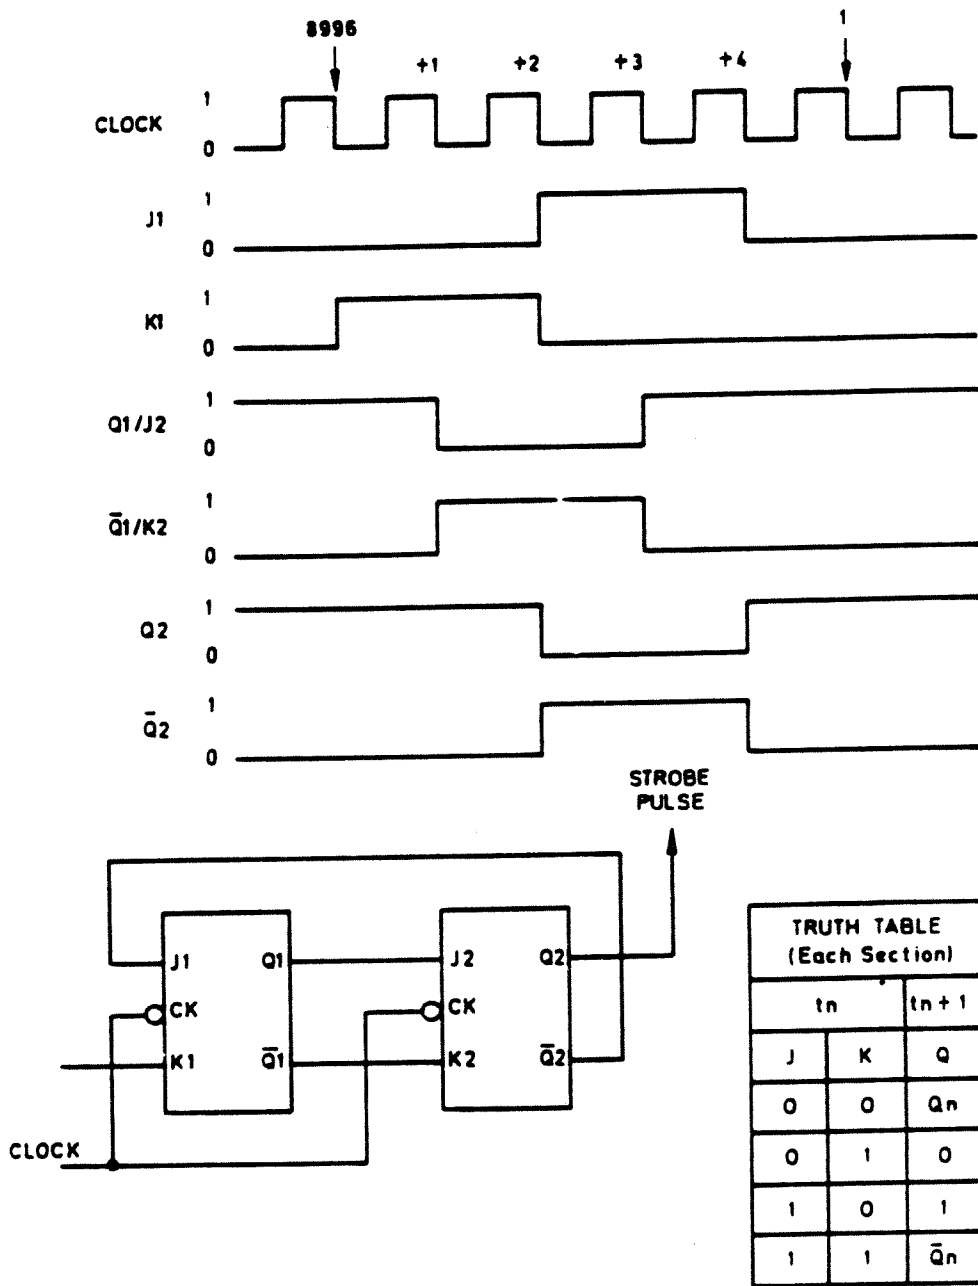

Figure 10-3. Waveform Diagram. Strobe Pulse Generation LF Loop. A11A1
To start a counting sequence, a logic '0' strobe pulse is applied to the strobe (ST) input of each decade counter. This causes the logic level applied to each input line to be transferred to the corresponding output line. The negative-going edge of the clock pulse (from the VCO) is applied to the clock 1 input of U3 and each pulse is now counted until the maximum count is decoded by network U22/U23 and NAND gate U9. The output of NAND gate U9, inverted by U1B, is applied to the K input of a dual negative-edge triggered J-K flip-flop, U11. The operation of this flip-flop, which generates the strobe pulse for the decade counters, is given in the waveform diagram, Figure 10-3. From this diagram, it can be seen that two clock pulses elapse before the start of the strobe pulse, and a further two clock pulses elapse before the end of the strobe pulse. Thus, four clock pulses are counted by U11 and must be added to the total number of counts in a cycle.